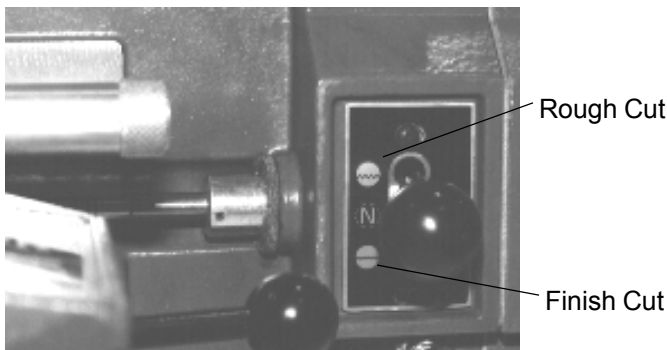

Figure 1
1. Drum Machining - 600 is equipped with two feed speeds. **See Figure 1.**